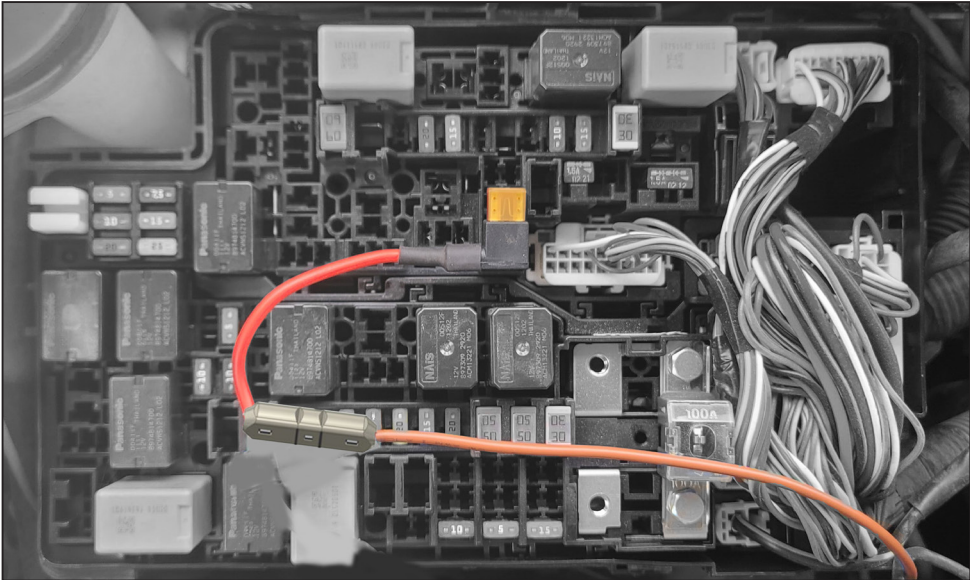
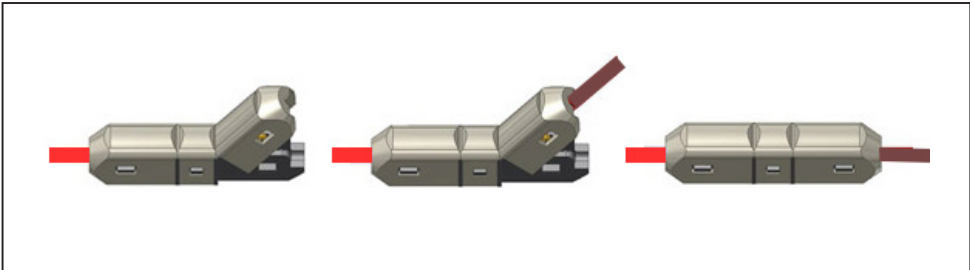

Fig. 10 BT50 Fuse box. Fuse tap installation
Fig. 11 Crimp process
Using the supplied fuse tap, connect the brown wire (item 10, Fig. 1) to a suitable ignition source via the passenger footwell fuse box. Lightforce recommends selecting a non-critical source with a 10A or less fuse, see Fig. 10. Using needle nose pliers, crimp the brown ignition pickup wire to the crimp attached to the end of the fuse tap (Fig. 11).